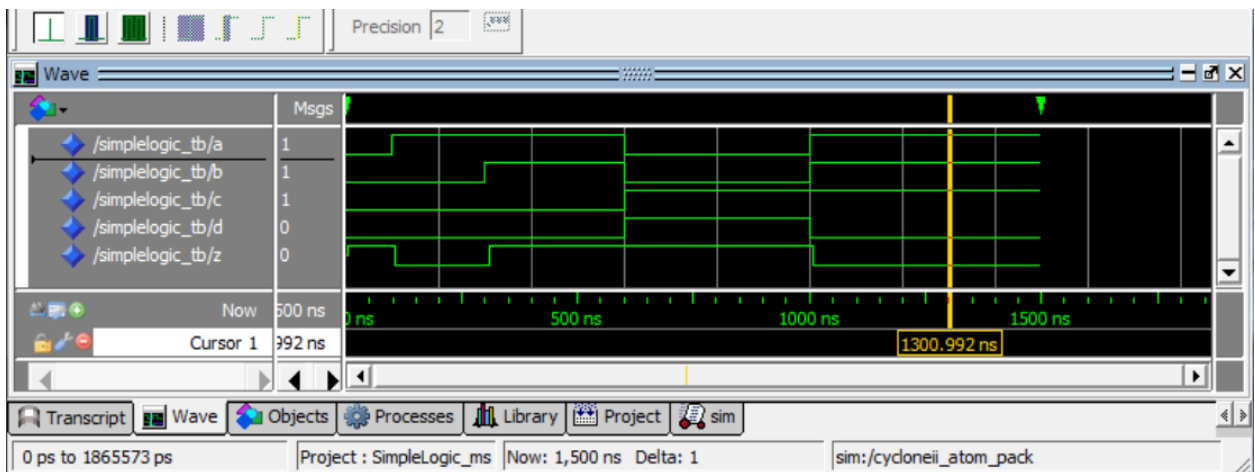

Figure 8
6. **Figure 8** shows the results of the timing simulation.